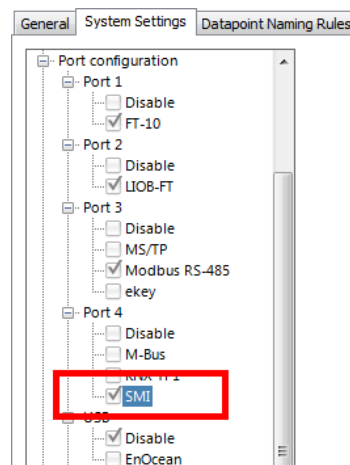

Figure 155: Enabling SMI in the Project Settings Dialog.
2. In the **System Settings** tab enable the SMI protocol on the EXT port, as shown in Figure 155.